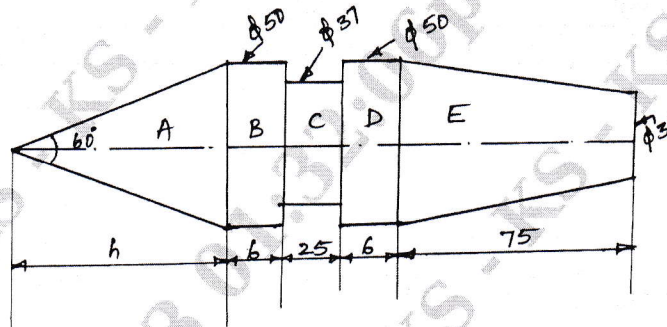

Fig.Q9(b)
- b. The following diagram Fig.Q9(b) shows the "Lathe dead centre", along with its dimensions, to be manufactured for a particular lathe. Estimate its weight and cost of material if cast iron is used to make it. Take density of CI as 7787 kg/m^3 and material cost as Rs.58 per kg.